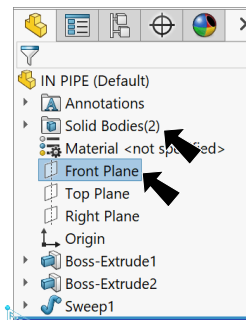

Fig. 21
Step 1. Click **Front Plane**  in the Feature Manager to display Plane in graphics area, **Fig. 21**. Note the 2 solid bodies.